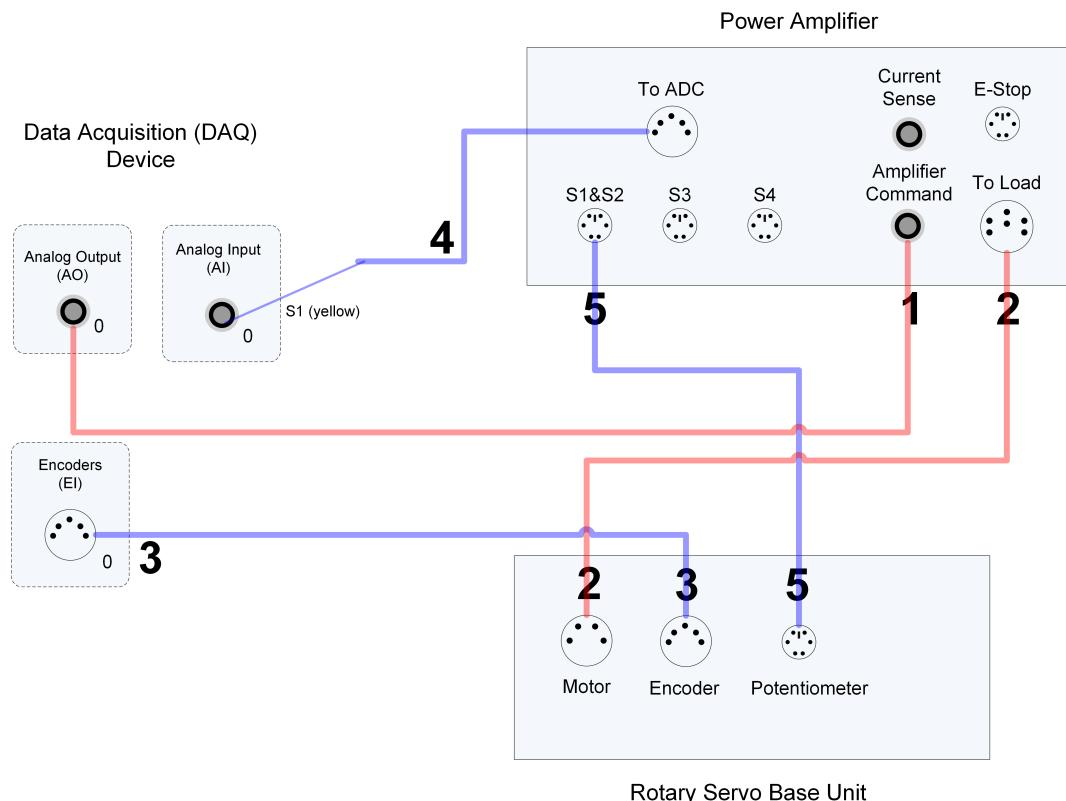

Figure 5.1: Connecting the Rotary Servo Base Unit to a DAQ and Amplifier
This section describes the connections used to connect the Rotary Servo Base Unit plant to a data acquisition device and a power amplifier. This includes both the encoder and potentiometer sensors. The connections are summarized in Table 5.2, and pictured in Figure 5.1. Connection details are given below.
Note: The wiring diagram shown in Figure 5.1 is using a generic data acquisition device. The same connections can be applied for any data acquisition system that has 1x analog input, 1x analog output, and 1x encoder input.
3. Connect one end of the 2xRCA to 2xRCA cable from the Analog Output Channel #0 on the data acquisition device to the *Amplifier Command* connector on the amplifier, i.e. use both white or both red RCA connectors. See cable #1 shown in Figure 5.1.
4. Connect the 4-pin-stereo-DIN to 6-pin-stereo-DIN that is labeled from *To Load* on the amplifier to the *Motor* connector on the Rotary Servo Base Unit. See connection #2 shown in Figure 5.1.
5. Connect the 5-pin-stereo-DIN to 5-pin-stereo-DIN cable from the *Encoder* connector on the Rotary Servo Base Unit panel to Encoder Input # 0 on the data acquisition device, as depicted by connection #3 in Figure 5.1.
6. Connect the *To ADC* socket on the amplifier to Analog Inputs #0 on the data acquisition device using the 5-pin-DIN to 4xRCA cable, as illustrated in Figure 5.1. The RCA side of the cable is labeled with the channels: yellow is S1, white is S2, red is S3, and black is S4. The yellow S1 connector goes to Analog Input Channel #0.
7. Connect the *Potentiometer* connector on the Rotary Servo Base Unit to the S1 & S2 socket on the Rotary Servo Base Unit using the 6-pin-mini-DIN to 6-pin-mini-DIN cable. This connection is labeled #5 in Figure 5.1. It carries the potentiometer (S1) measurement.